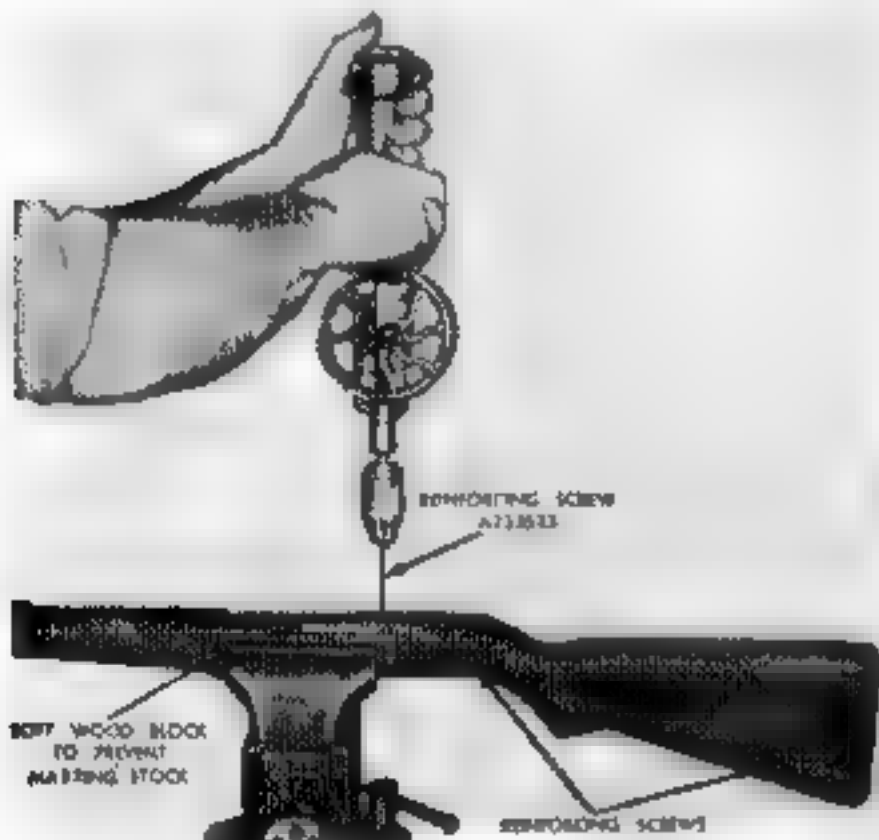

Fig. 160. Reinforcing patches on stock.
89. Patching stocks: when placing wooden patches on the stock, dovetail the pieces if possible, and use a brass wood screw to reinforce the patch (Fig. 160). File the end off the screw, so that it is flush with the wood.